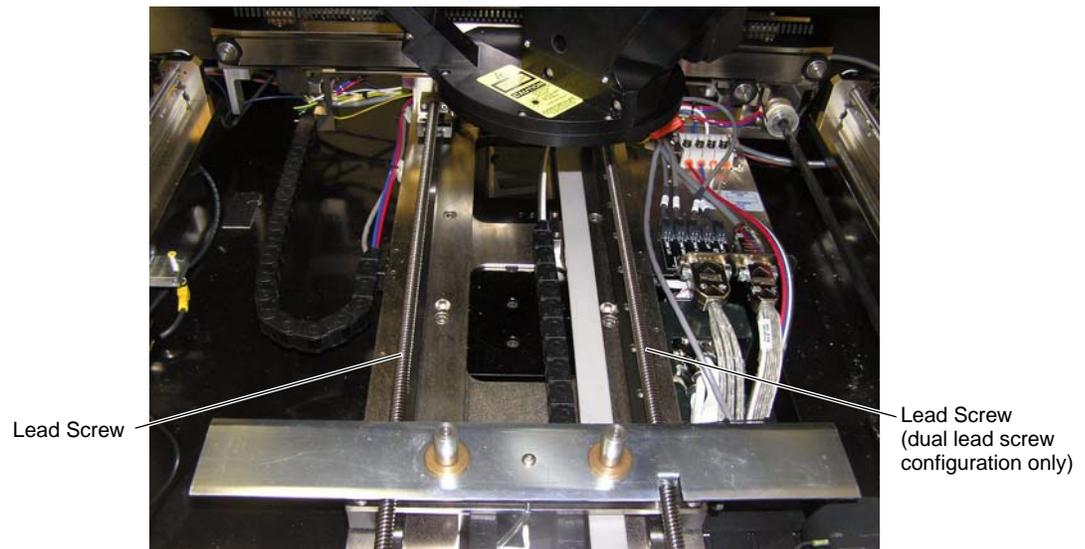

Figure 67. Center Conveyor Section Lead Screw
2. Locate the lead screw on the conveyor section (Figure 67).